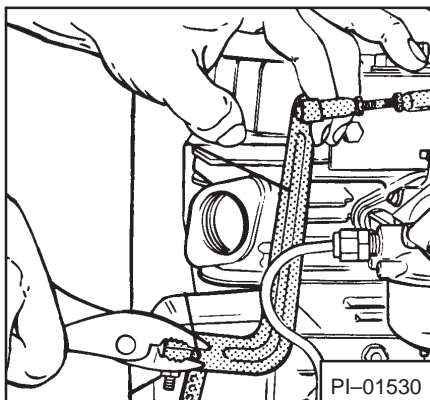

Fig. 11 Adjusting Governor
1. Loosen (do not remove) the nut which holds the governor arm to the cross shaft (Fig. 11).